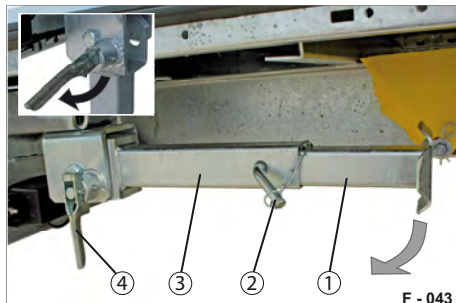

Fig. 59 Folding out the folding support
- ▶ Pull on the spring bar (Fig. 59/4).
The folding support (Fig. 59/3) is unlocked.
- ▶ Release the spring bar (Fig. 59/4).